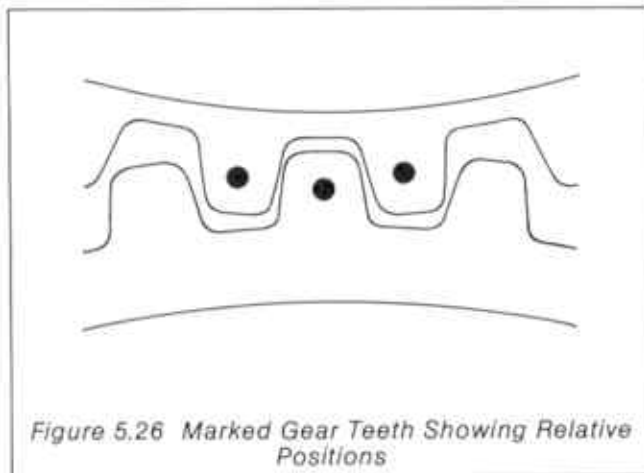

Figure 5.26 Marked Gear Teeth Showing Relative Positions
- (4) Fit the camshaft making sure that the marked teeth on the gearwheels are in their relative positions as shown in Figure 5.26.
- (5) Fit the gear cover and gasket locating it on the aligning dowels. Ensure that the correct gasket is fitted between the gear cover and the extension shaft housing or blanking plate. The thickness of the gasket will effect the camshaft end float.
- (6) Check the camshaft end float is between 0.13 mm to 0.71 mm (0.005 to 0.028 in.) as